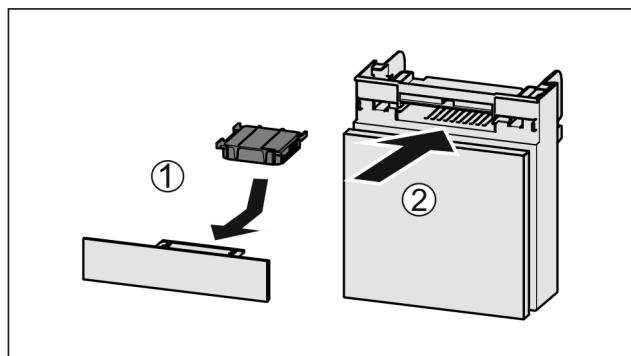

Fig. 59
- Insert the carbon filter as shown in the diagram Fig. 59 (1).
- Push the compartment in Fig. 59 (2).